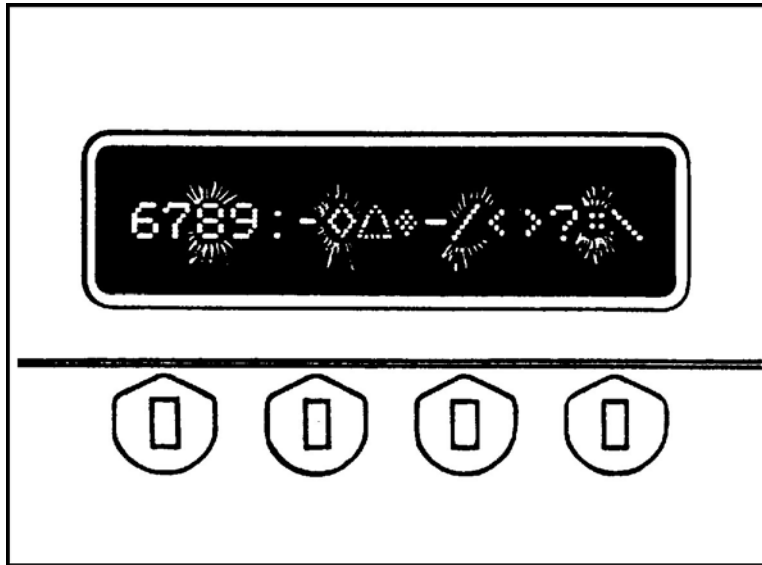

Figure 15. Third character display.
- f. Press the SEQ switch again and the screen shows "6" through "" The four character blocks (Figure 15) and the SEQ and MSG (message) lights (Figure 16) should be flashing.